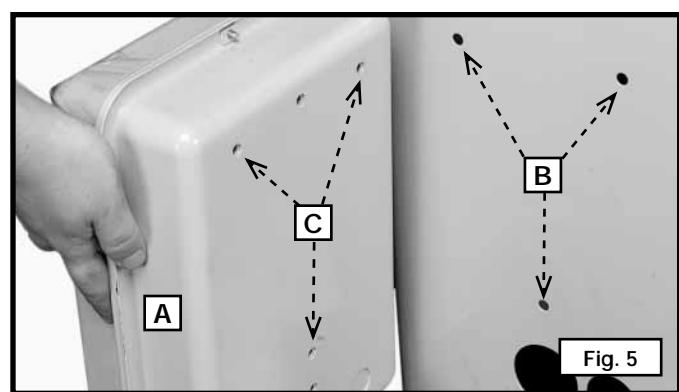

Fig. 5
LVC-controlled saws are shipped with the starter box wired to the switch and motor. To attach the starter box (A) Fig. 5 to the saw cabinet:
1. Place a 1/4" lockwasher on a 1/4-20x1/2" hex-head screw. Add a 1/4" flat washer. From the inside rear of the saw cabinet, insert the screw and washers into the hole (B) Fig. 5 in the cabinet. Repeat this process for the two remaining screws.
2. Put the starter box in place so that the screws fit in the three tapped holes (C) Fig. 5. Secure the starter box in place.